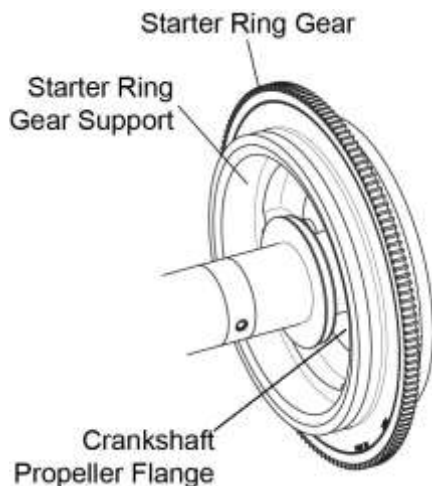

Figure 56
- (2) Remove the alternator belt from the starter ring gear support (figure 56).
- (3) Remove the starter ring gear support from the crankshaft propeller flange.